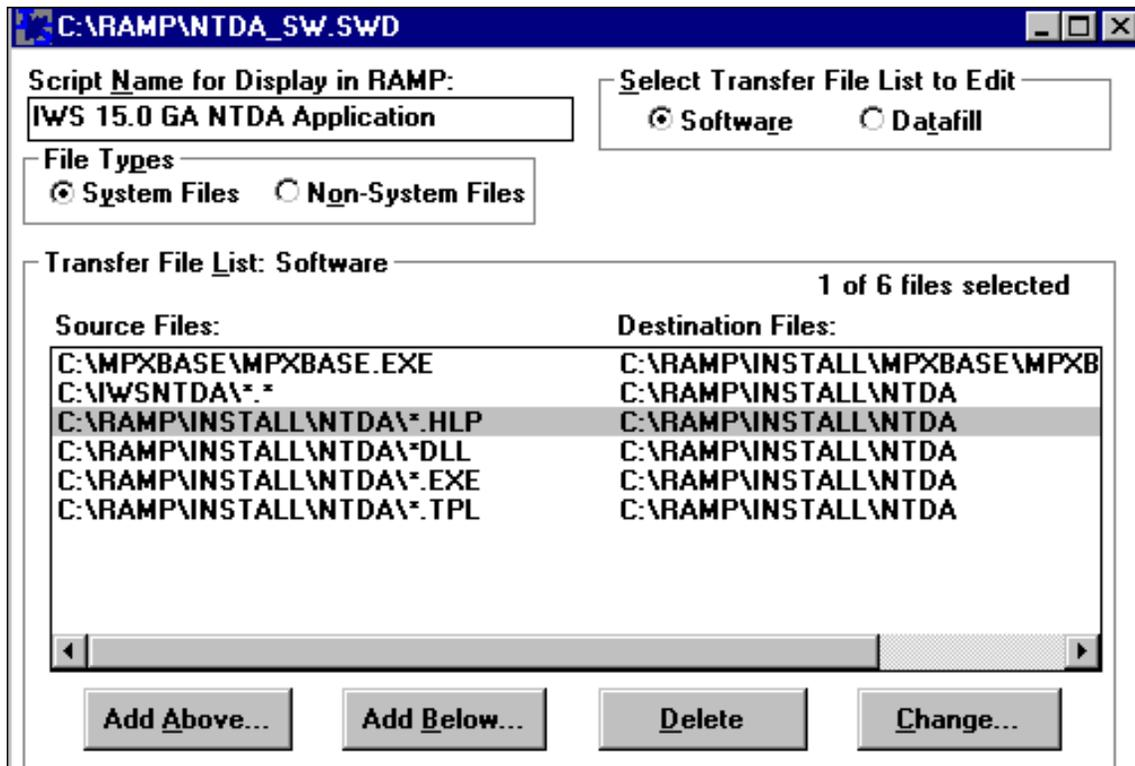

FIGURE 41. RAMP SWD Script File Editor window
5. Select the file to be edited. Then select OK. (See Figure 41.)